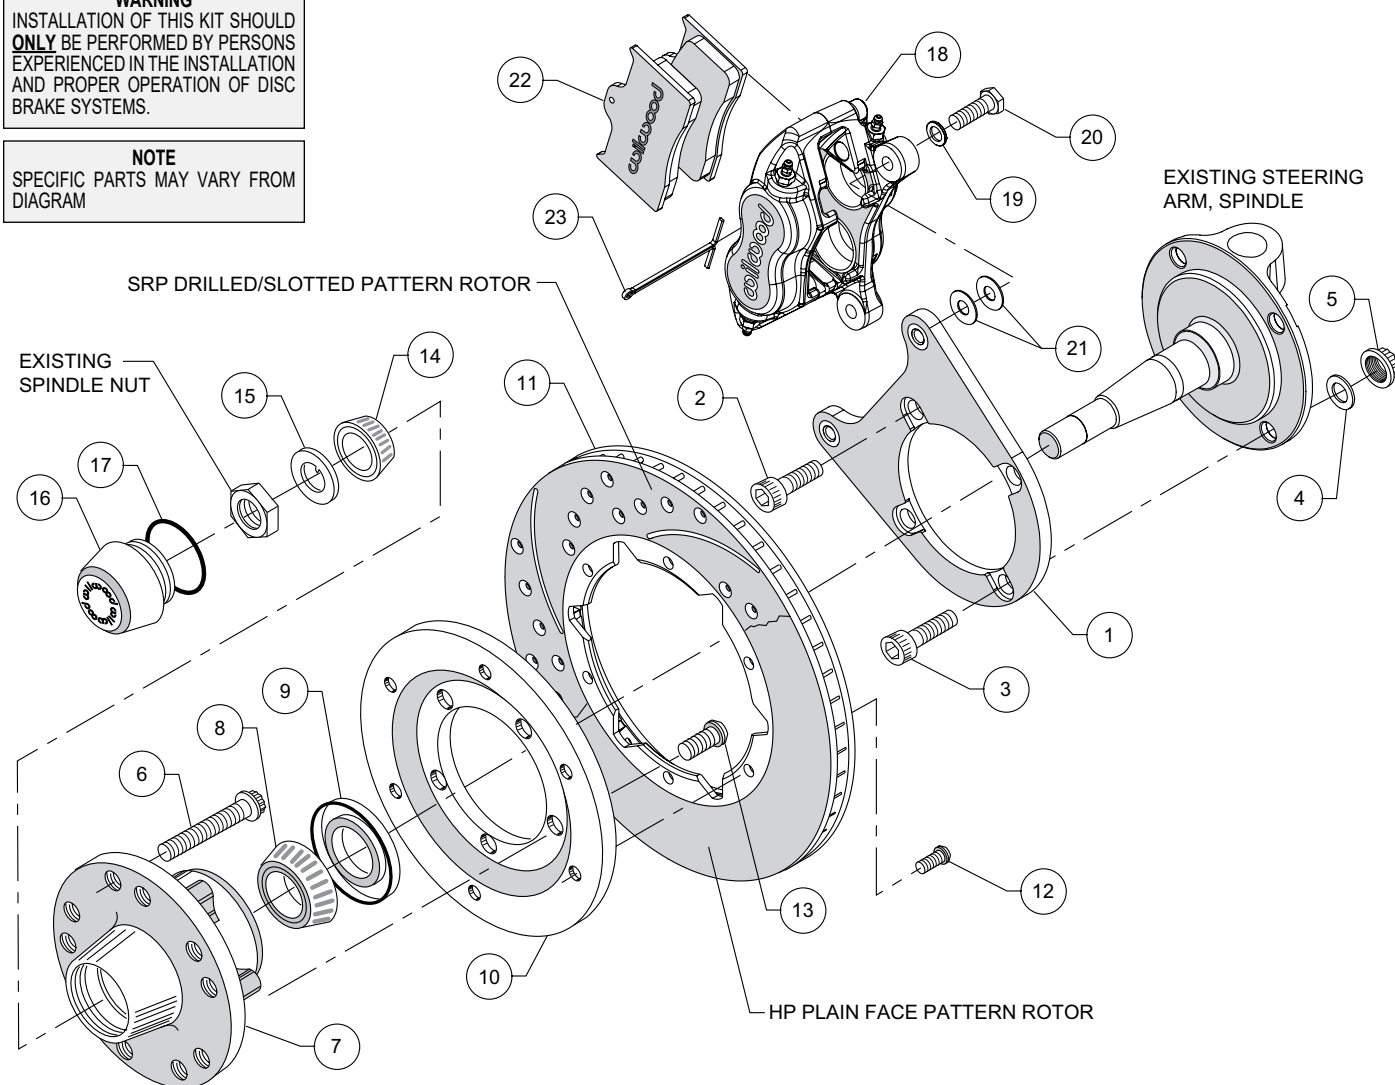
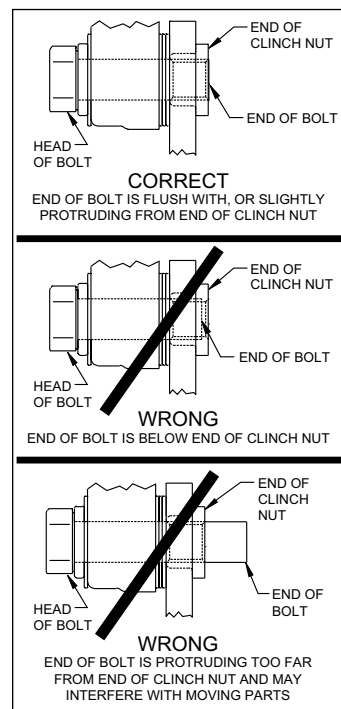

Figure 1. Typical Installation Configuration
Figure 3. Clinch Nut Engagement Diagram
NOTE: Numbers in parenthesis refer to the parts list and Figure 1 on the preceding pages.
CAUTION: All mounting bolts must fully engage clinch nuts. Be sure to check that all bolts are either flush or protruding through flanged side of clinch nut after shimming, Figure 3.
- Orient the caliper mount bracket (1) as shown in Figure 1. Install using bolts (2) threaded into the steering arm and bolts (3), washers (4), and locknuts (5), Figure 1. Ensure that the flanged heads of the clinch nuts in the bracket are facing outboard, Figure 1. Temporarily tighten the mounting bolts. **NOTE:** The bracket must fit squarely against the mounting points on the spindle. Inspect for interference from casting irregularities, machining ridges, burrs, etc. Torque locknuts (5) to 65 ft-lb. Apply red *Loctite*® 271 to the threads of bolts (2) and torque to 80 ft-lb.
- Install wheel studs (6) into the hub (7), Photo 2. Torque to 77 ft-lb. **NOTE:** There are two five lug patterns in the hub (5 x 4.50 and 5 x 4.75). Ensure the correct hub stud pattern is being used to fit the wheel application.
- Pack the large inner bearing cone (8) with high temperature disc brake bearing grease (available from your local auto parts store) and install into the backside of the hub (7), Photo 3.
- Install the grease seal (9) by pressing into the backside of the hub (7), flush with the end of the hub, Photo 3.
- Orient the rotor (11) and the rotor adapter (10) as shown in Figure 1 and Photo 4. Attach the rotor to the adapter using bolts (12). Using an alternating sequence, apply red *Loctite*® 271 to the threads, and torque to 25 ft-lb.
- Mount the adapter/rotor assembly (10/11) to the hub (7) using bolts (13), as shown in Figure 1 and Photo 5. Using an alternating sequence, apply red *Loctite*® 271 to the threads, and torque to 45 ft-lb.
- Pack the small outer bearing cone (14) with high temperature disc brake bearing grease and install into hub (7). Slide the hub/rotor assembly onto the spindle. Secure using spindle
- NOTE:** Please reference the caution statement at the beginning of the assembly instructions. Mount the caliper (18) onto the caliper mounting bracket (1) using bolts (20) and washers (19), as shown in Figure 1. Initially place two .035" thick shims (21) on each bolt between the caliper and the bracket, Photo 8. Temporarily tighten the mounting bolts and view the rotor (11) through the top opening of the caliper. The rotor should be centered in the caliper, Photo 9. If not, adjust by adding or subtracting shims between the bracket and the caliper. Always use the same amount of shims on each of the two mounting bolts. **NOTE:** *The end of each bolt must be flush with or slightly protruding from the head of the clinch nut, as shown in Figure 3.* If necessary place spare shims between washer (19) and caliper mounting ear to achieve the proper clinch nut engagement. Once the caliper alignment and clinch nut engagement are correct, remove the bolts one at a time, apply red **Loctite® 271** to bolt threads, and torque to 40 ft-lb.